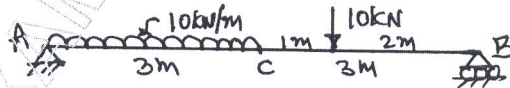

Fig.Q3(c)
c. Determine the deflection at 'C' of the beam shown in Fig.Q3(c) using Castiglione's theorem. Take EI constant.